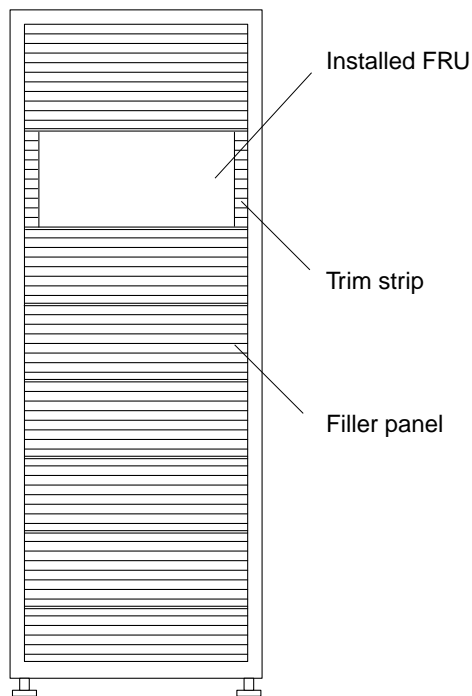

FIGURE 4-5 Filler Panel and Trim Strip Location
5. Remove the filler panel located where you will install the FRU (FIGURE 4-5).
9. Install the trim strips (FIGURE 4-5).
3. Remove the trim strips beside the FRU (FIGURE 4-5).
6. If you are not replacing the FRU, install a filler panel over its previous location (FIGURE 4-5).